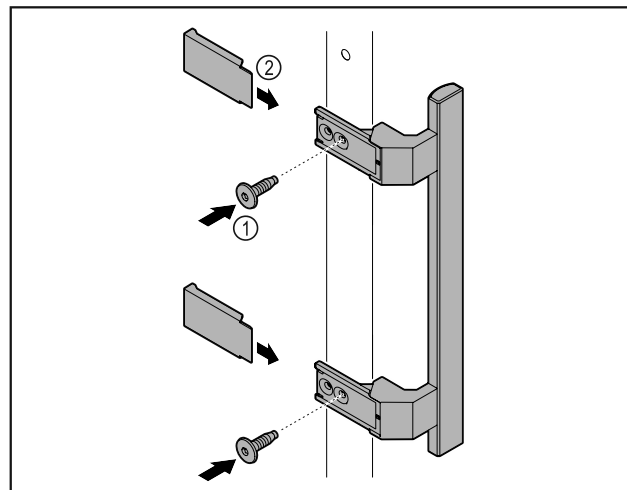

Fig. 7
- ▶ Attach handle from accessory kit to the door using the screws Fig. 7 (1) supplied.
- ▶ Put on cover Fig. 7 (2).